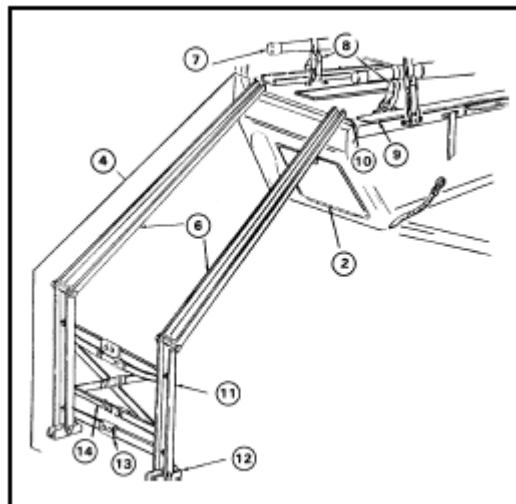

Figure 3-51. Unload litters from the lower litter rack
- (1) Secure both rails (6) of litter rail extension (4) into slots (10) on lower litter rack (9).
- (2) Place litter (7) on litter rail extension (4).
- (3) Slide litter (7) onto lower litter rack (9).
- (4) Secure litter (7) to lower litter rack (9) with front and rear litter handle straps (8).
- c. Unload litters from the lower litter rack. Refer to Figure 3-51.